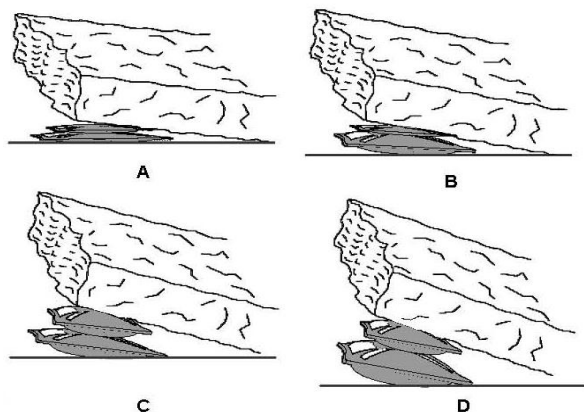

Figure 2-5. Correct Method for Inflating Stacked Lift Bags
g. If the lift requirement demands the use of two stacked lift bags, (figure 2-5) the smaller lift bag be on top (A) and the bottom lift bag inflated first until top lift bag contacts with the load (B). The top lift bag is then inflated to achieve the desired lift (C). If additional lift is required at full inflation of the top lift bag is further inflated (D).